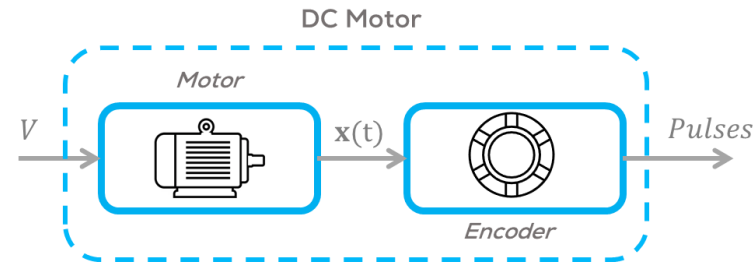

Figure 1
- Using the previous information, the motor can now be modelled as a single box, where the input is the Voltage (V) and the output are the pulses given by the encoder, as depicted in Figure 1.